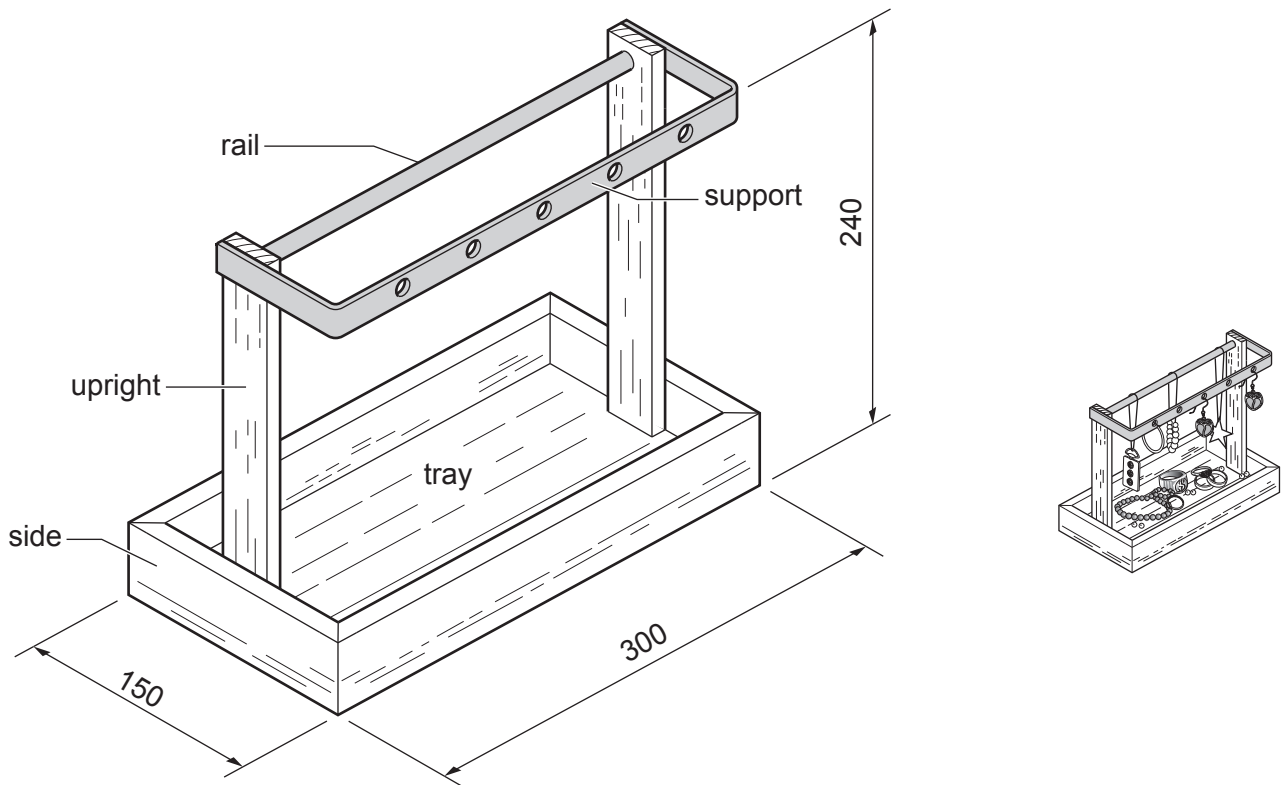

Fig. 13.1
- 13 Fig. 13.1 shows a jewellery stand made in a school workshop. The jewellery stand could be delivered to customers as flat pack for self-assembly. The tray and uprights are made from oak. The rail and support are made from brass.